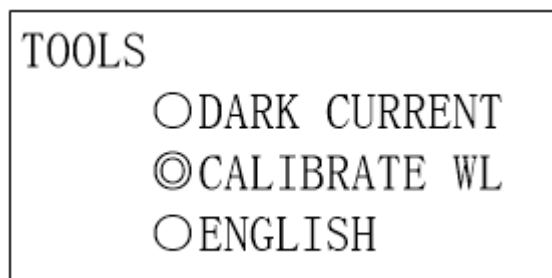

Fig. 4-10
Step 1: Choose System tools from the main menu. ENTER to confirm. (Fig. 4-10)